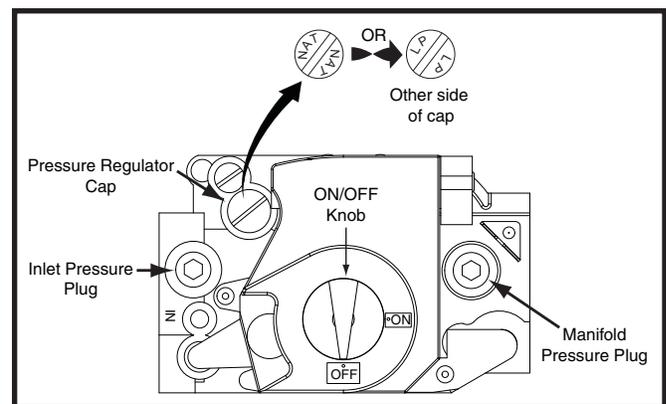

Figure 35. Gas Valve - Top View
- l. Install the appropriate LP/Propane orifices (7) into the gas manifold assembly (5).
- m. Remove the pressure regulator cap (Figure 35) from the gas valve.
- a. Remove the inlet pressure plug (Figure 35) from the INLET side of the gas valve with a 3/16 Allen wrench.
- a. Remove the manifold pressure plug (Figure 35) from the outlet side of the gas valve with a 3/16 Allen wrench.
- f. If the manifold pressure is not set to the pressure specified in Table 11, remove the pressure regulator cap (Figure 35) from the gas valve. Slowly turn the adjusting screw underneath the cap with a small screwdriver until the appropriate manifold pressure is obtained. **NOTE:** Turning the screw clockwise increases the pressure, turning the screw counter-clockwise decreases the pressure.
- d. Turn the gas valve ON/OFF knob (Figure 35) to the ON position.